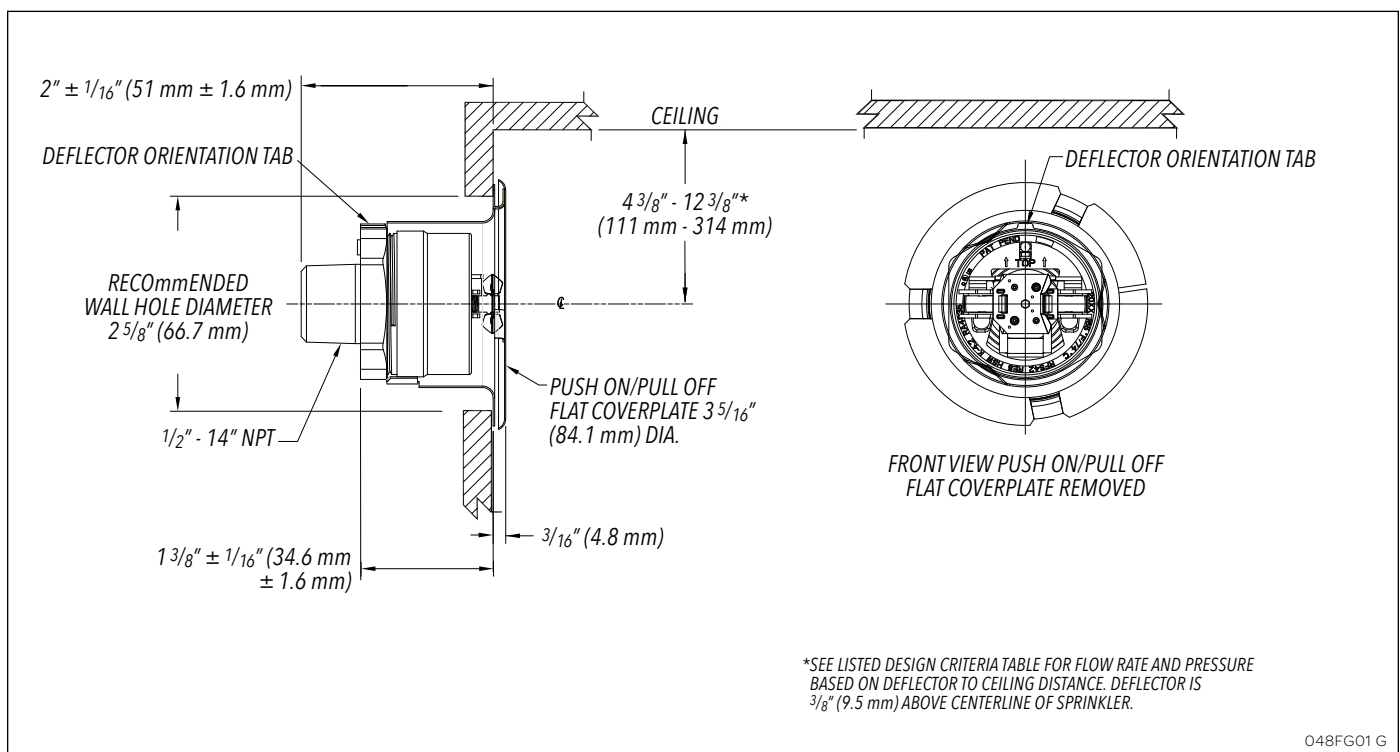

Fig. 1
Do not remove the factory installed plastic protective cap since it is sized to fit inside the G6 wrench. Note that the sprinkler can only mate when the sprinkler's deflector orientation tab (Fig. 1) is aligned with wrench's key-way. The G6 wrench is provided with bubble level pad and TOP marking, to allow the proper orientation of the horizontal sidewall deflector. Final leveling can be done after leak proof joint is obtained with a minimum to maximum torque of 8 to 18 ft-lb (11 to 24 N-m). Leave the protective cap on to protect the sprinkler while the wall is plastered, wallpapered or painted. The protective cap must be removed and the listed cover plate installed prior to the sprinkler system being placed in service. A 2 5/8" (67 mm) diameter hole must be cut in the wall for the sprinkler assembly to extend through.
4. The sprinkler fitting shall be installed so that the rear of the sprinkler is 2 1/16" +/- 1/16" from the finished surface of the wall. Verify wall assembly dimensions prior to installation to ensure that the cover plate attaches to the sprinkler and seats against the finished wall surface (Fig. 1).